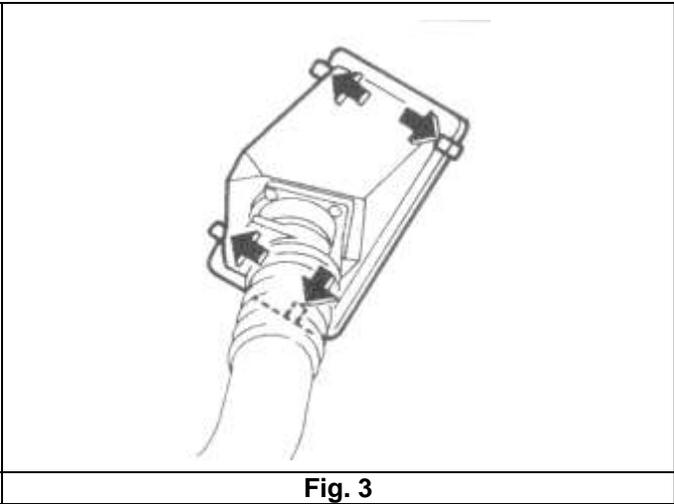

Fig. 3
- f. Release the four clips holding down the air box cover. (Fig. 3)